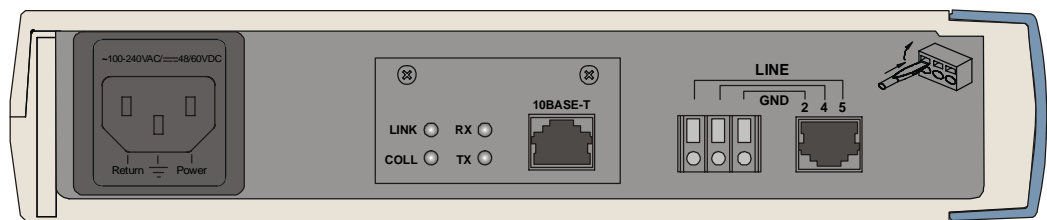

*Figure B-1. Typical Application of ASMi-31 with IR-ETH Module*
*Figure B-1* shows a typical application using an Ethernet interface bridge. Each modem is connected to an Ethernet network via the Ethernet interface bridge.